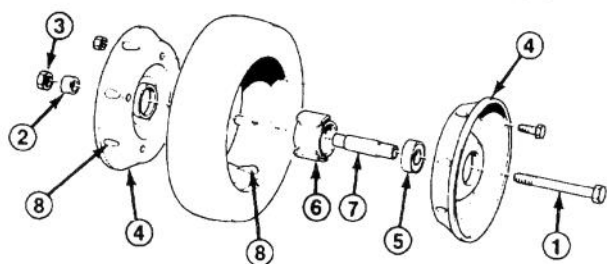

Figure 30
1. Remove capscrew, wheel spacer, and locknut mounting wheel to pivot arm (Fig. 30).
2. Separate wheel halves from tire by removing (4) flange capscrews and locknuts (Fig. 30).
1. Position tire onto (1) wheel half aligning lugs on each (Fig. 30).
4. Using (2) ¼-20 x 1.50" lg. fully threaded screws or bolts and non locking nuts, loosely secure wheel halves together. Mount screws or bolts in opposing holes.
6. Install (2) flange capscrews and locknuts, previously removed, in remaining holes in wheel halves and tighten. Remove two long screws or bolts and replace with (2) flange capscrews and locknuts.